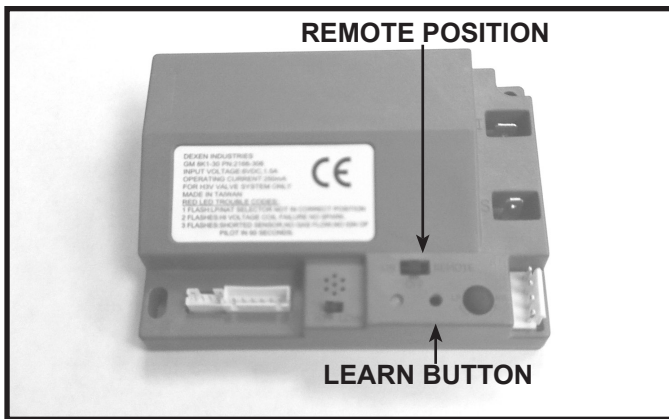

Figure 3.15 Programming RC300AU
- Using a small item (such as a paper clip) press and release the LEARN button located near the ON/OFF/REMOTE switch. See Figure 3.15.